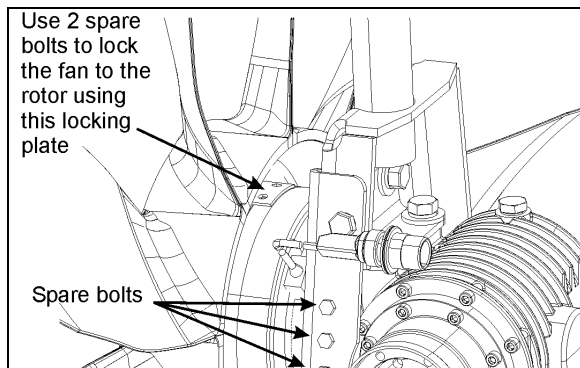

FIGURE 21: MECHANICAL LOCKING
- Screw in and tighten the spare bolts (Fig. 21).